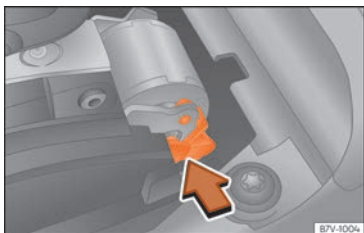

Fig. 53 Manual release of gear selector lever
- Press the release lever »» **Fig. 53** in the direction of the arrow and hold it in this position.